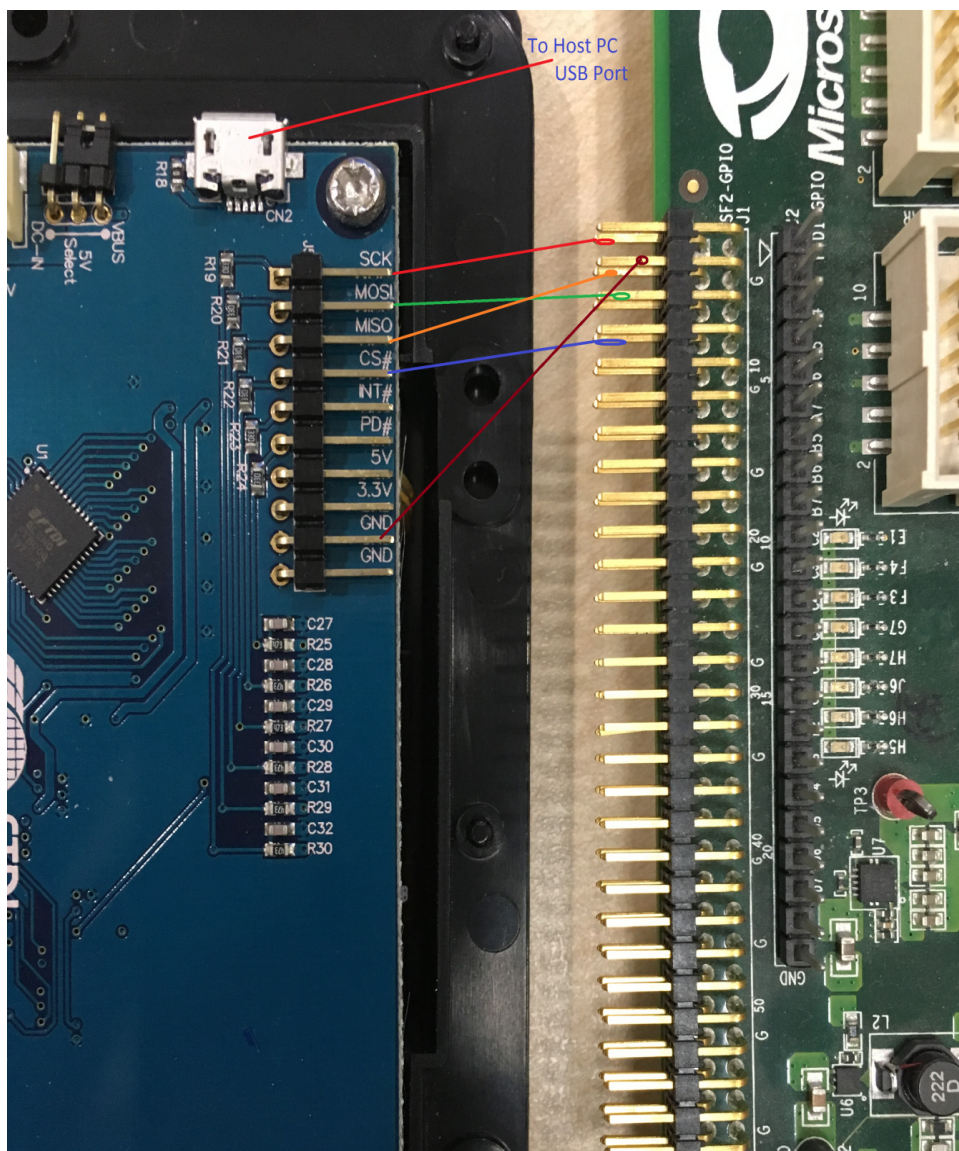

Figure 6 • SmartFusion2 J1 Header to FTDI Display J5 Header
5. Connect the following pins of the SmartFusion2 J1 header to the FTDI display J5 header, as shown in Figure 6